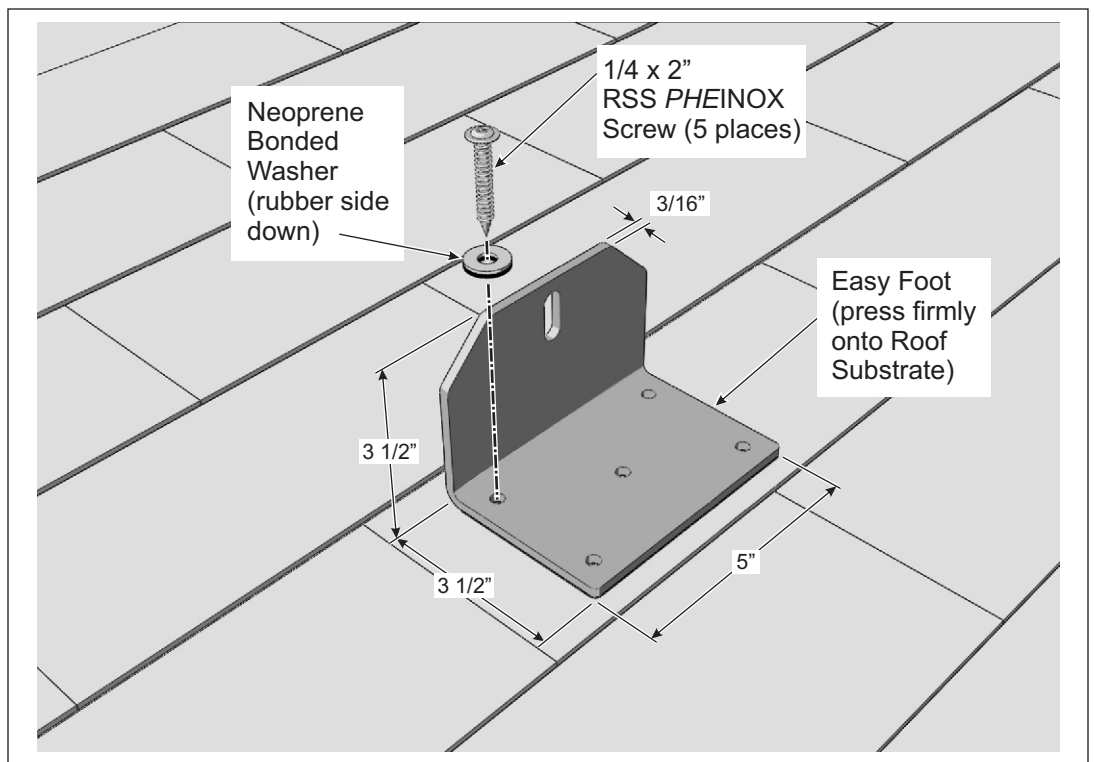

Figure 2: Securing the Easy Foot to Roof
- B. Align the Easy Foot to the substrate and press firmly, sticking it to the substrate. (See Figure 2)
- C. Install the neoprene bonded washers onto the RSS *PHEINOX* screws with the rubber side down. (See Figure 2)